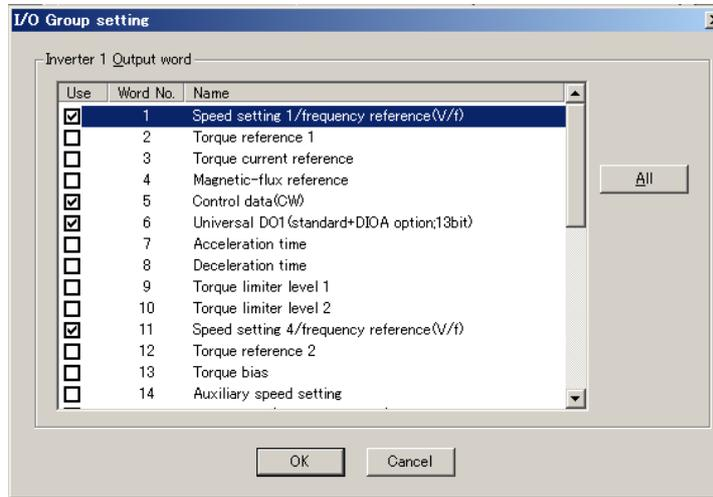

Fig. 2-2-5 Detail setting screen for each word
[Details (D)] button (or double click an item)	The input/output data selection screen of a selected device appears (Figure 2-2-5).